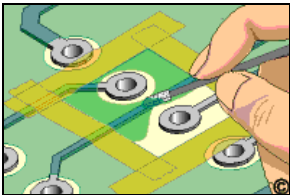

Figure 1: Foam Swabs can be
5. Apply the mixed Epoxy using a Brush, Foam Swab, Pick, or Syringe Assembly. (See Figure 1).